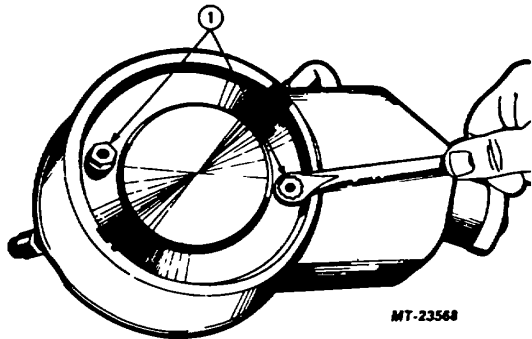

Fig. 5 Remove Retaining Nuts
4. Remove reservoir retaining nuts, Figure 5.